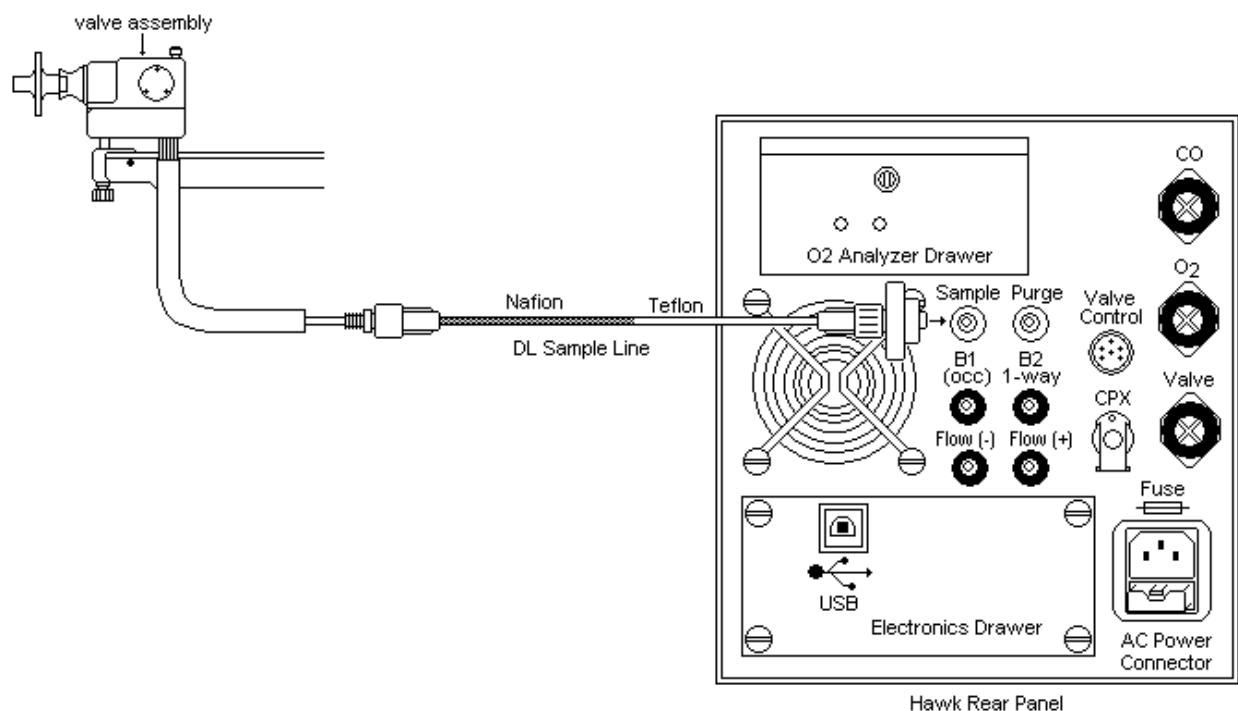

Figure 1-12. DL Sample Line Connections for the Hawk
3. Attach the tubing leading from the Demand Valve (shown in Figure 1-12) to the connector labeled Valve at the rear of the Hawk. The Valve tubing has a plain end and the Hawk connector has a blue ring around it. Simply slide the tubing end into the connector until it is securely attached. To release the connection, press against the blue ring and pull the tubing out.